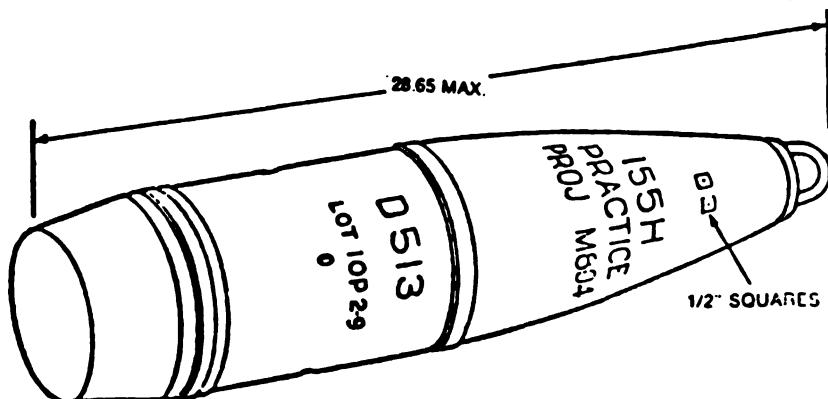

Figure 196.1. Projectile, 155mm, practice, M804.
(10) *Projectile, 155mm, practice, M804 (fig. 196.1).*